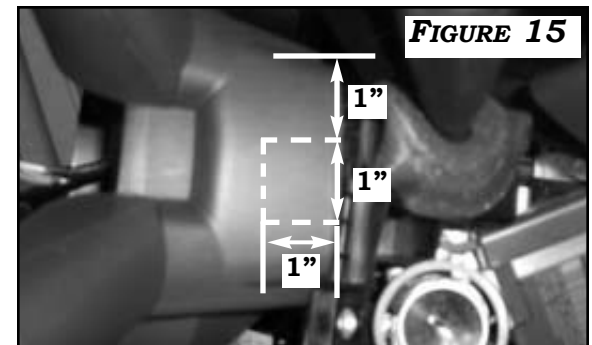

FIGURE 15
2. **JEEP WRANGLER** APPLICATIONS: USE DREMEL OR OTHER CUTTING TOOL TO TRIM OUT RIGHT SECTION OF STEERING WHEEL AS SHOWN IN **FIGURE 15**.